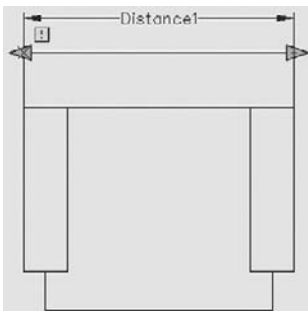

FIGURE 7.10
- Step 1.** Open the Parameter tab on the palette and pick the Linear parameter. That, after all, is the way scale works, by linearly scaling up an object. First pick the upper left corner start point, then pick the upper right corner endpoint of the chair (like adding a horizontal dimension). The result is shown in Figure 7.10.